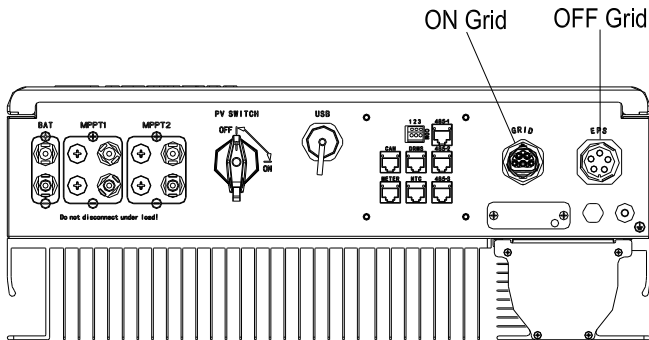

Figure 5.10
**Note:** When installing the equipment, you need to install the EPS output connector (Item F in the accessory kit) onto the SPH whether the EPS output port is to be connected or not, as shown in Fig 5.10.